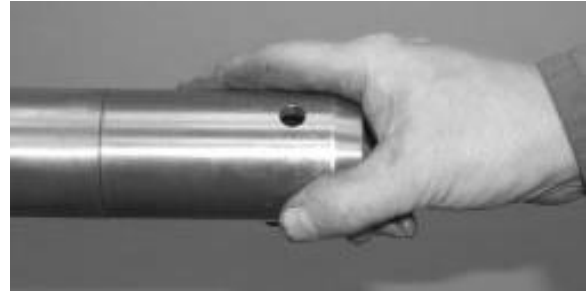

FIGURE 18: INSERTION TOOL
2. Screw insertion tool onto spindle (FIGURE 18).